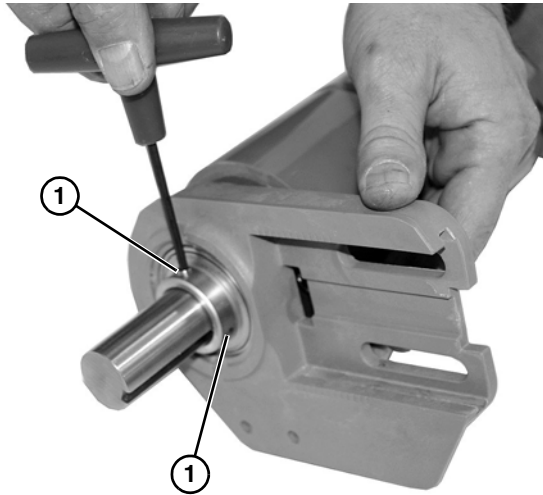

Figure 39
- Loosen two set screws (Figure 39, item 1).